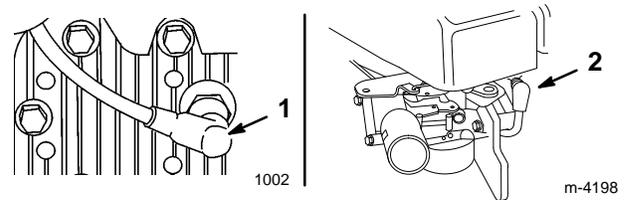

Figure 15
1. Stop the engine and pull the wire off of the spark plug (Fig. 15).
2. Pull the wire off of the spark plug (Fig. 15).
3. Pull the wire off of the spark plug (Fig. 15).
1. Stop the engine and pull the wire off the spark plug (Fig. 15).
5. Connect the spark plug wire (Fig. 15).
- C. If there are no signs of wear or dullness, return the mower to the upright position and replace the spark plug wire (Fig. 15).